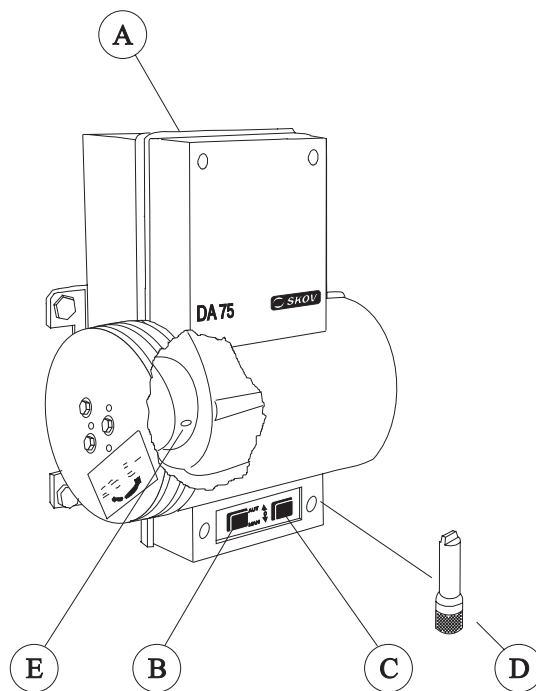

Fig. 1 Operation
CL 75A should be mounted vertically or horizontally on the wall. At horizontal mounting the shaft should turn down in order to avoid water penetration. In countries with a hot climate it should be avoided that the sun shines directly on CL 75A. 3 or 4 pcs. of 10 mm through-bolts should be used to secure the unit. Above the unit, (A) on Fig. 1, sufficient space should be left free for an emergency opening crank or a battery-operated drilling machine to operate the motor, should emergency opening be required. The wires can be led in any direction, also through the wall. The wires should be wound on to the wire wheel in order to obtain the correct pulling or slacking length.